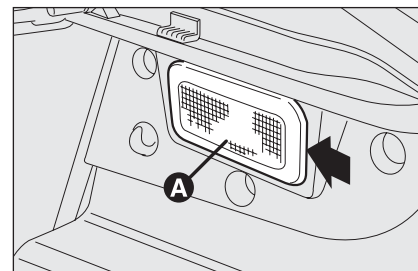

fig. 42
- remove the light unit **A-fig. 42** levering in the point shown by the arrow;